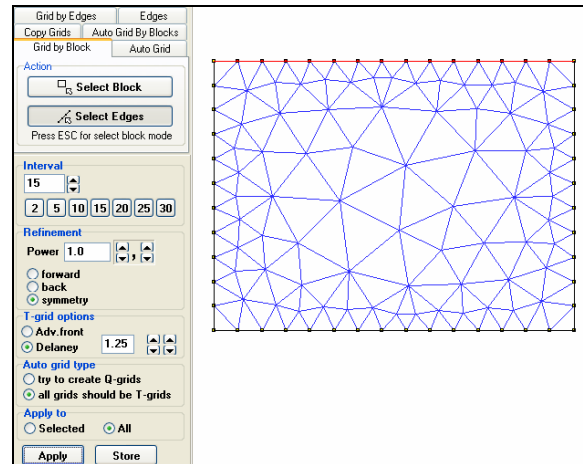

Fig. 8
- ✓ **Delauney**. The Delauney method builds cells by scattering the internal points in the domain (see Fig.8) using the parameter **Cell Size Ratio** that is specified in the text field located at the right hand side of the of the **T-Grid Options** section. Fig.8 presents an example of Delauney grid generation for a **Cell Size Ratio** of 1.25.